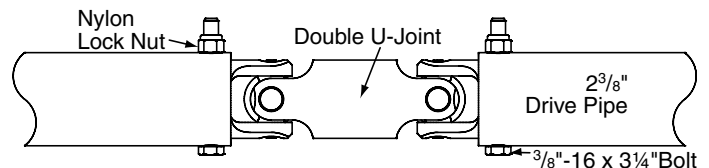

Figure 4
- ⑩ Use the double universal joint to connect drive tube and coupler that is connected to the winch (see Figure 4).